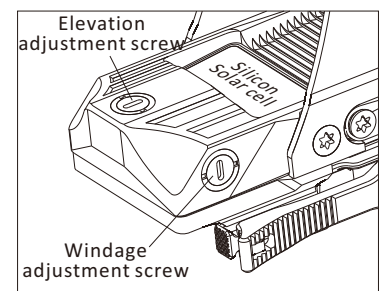

Fig 7
2. The elevation adjustment screw is at top rear end of the sight, the windage adjustment screw is on the left side of the housing. Adjustments can be made by inserting the included wrench into the adjustment screw slots and twisting. (see Fig7).